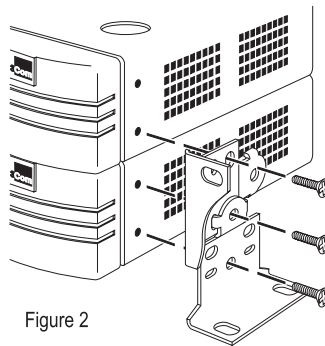

Figure 2
- 2 Locate two mounting brackets over the mounting holes on one side of the units, as shown in figure 2 below.